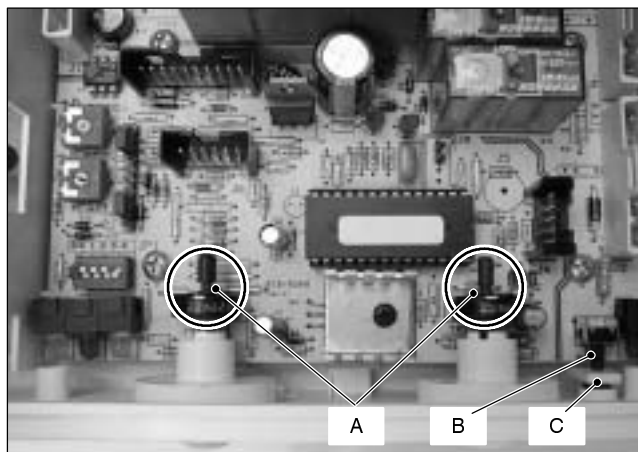

Fig. 38
- 8 Insert the spindles in the control panel knobs until the notch A (Fig. 38) reaches the potentiometer edge. It is not necessary to force them in the knob.
sure of the contact between the boiler reset button B and the tab C (Fig. 38).